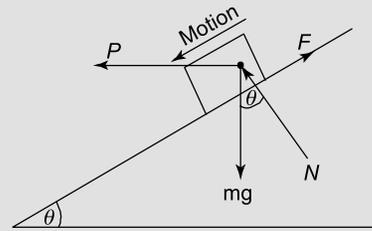

Figure 16.10
**Problem 10.** If the mass of Problem 9 were subjected to a horizontal force  $P$ , acting down the plane, as shown in Figure 16.10, determine the value of  $P$  which will just cause motion down the plane.
10. Determine  $P$  for Problem 6, if it were acting in the direction shown in Figure 16.10. [ $P = 15.43 \text{ N}$ ]